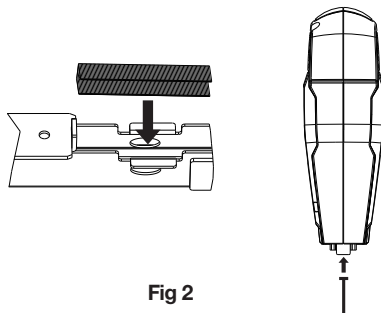

Fig 2
- When inserting a nail strip (supplied with the tool) tilt the tool in such a way, that the nail strip rests against the magazine side which corresponds with the nail symbol on tacker head. (Fig. 2)